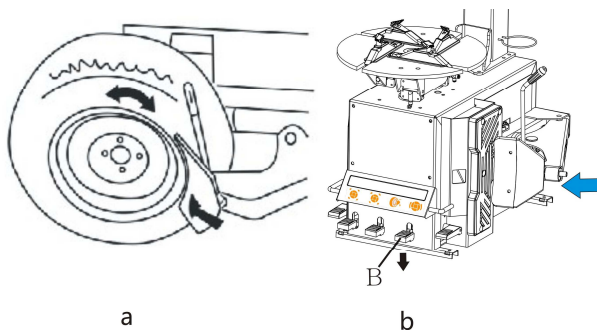

Fig.13
- Place the tire between the bead breaker shovel and rubber pad and keep the shovel between the bead and rim, about 1cm to the bead (Fig.13-a). Depress pedal B (Fig.13-b) to separate the tire from rim.